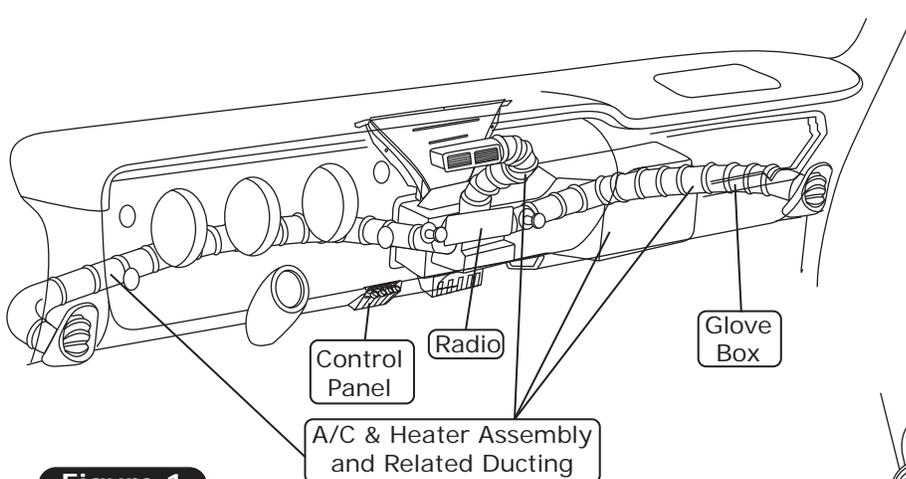

Figure 1
6. Remove the OEM A/C & heater assembly (discard) (See Figure 1, below).